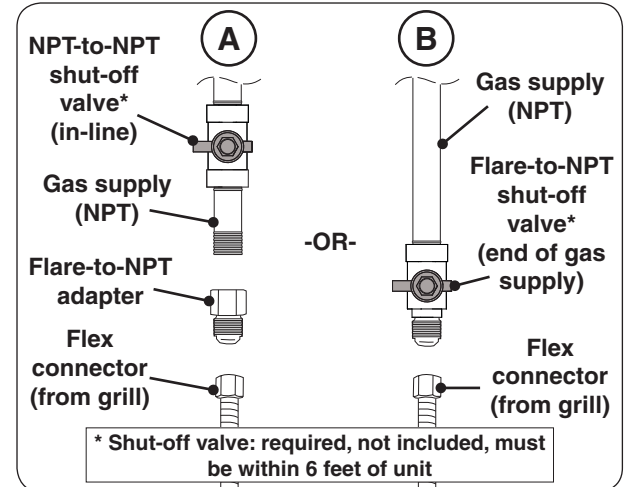

Fig. 20-3 Connecting to a gas line
- Install the supplied flare-to-NPT adapter to the gas supply (NPT) using a pipe joint compound resistant to all gasses (see Fig. 20-3, A). Tighten securely.
- Connect the flex connector to the adapter (see Fig. 20-3, A). Tighten securely.
- Connect the flex connector to the shut-off valve (flare) (see Fig. 20-3, B). Tighten securely.